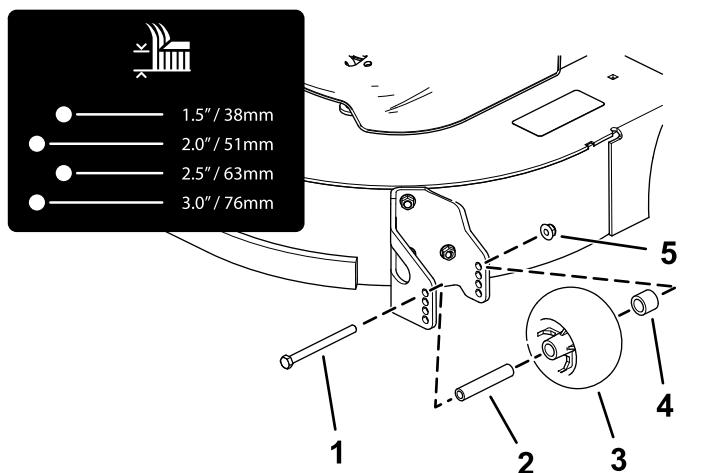
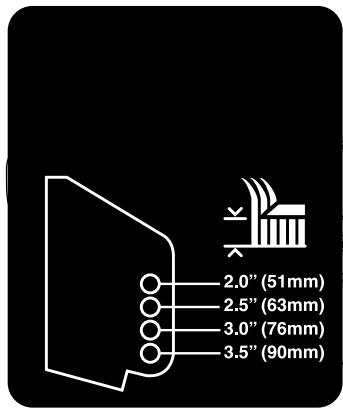

**Figure 27**
**Figure 28**
4. Adjust the anti-scalp rollers as shown in Figure 26, Figure 27, Figure 28, and Figure 29.